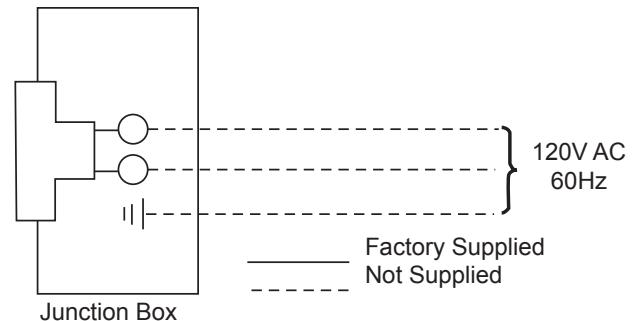

Figure 57 -
3. The junction box cover has a factory installed "romex" style strain relief connector. After connecting the wires, route the wire leads through this connector. Refer to the wiring diagram in *Figure 57*.